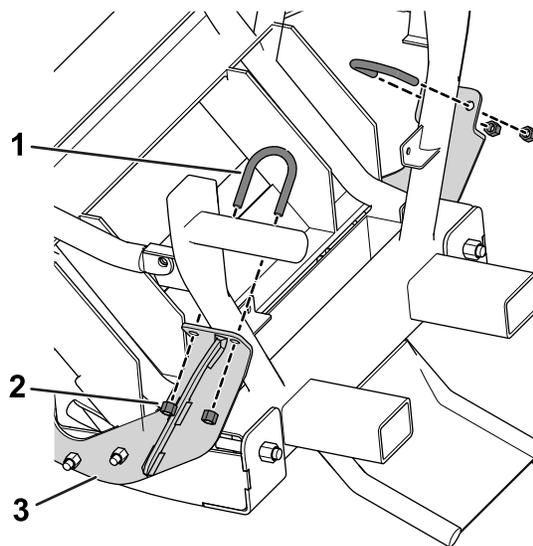

Figure 5
- Use 2 U-bolts and 2 nuts (3/8 inch) to secure the side plates to the frame (Figure 5).